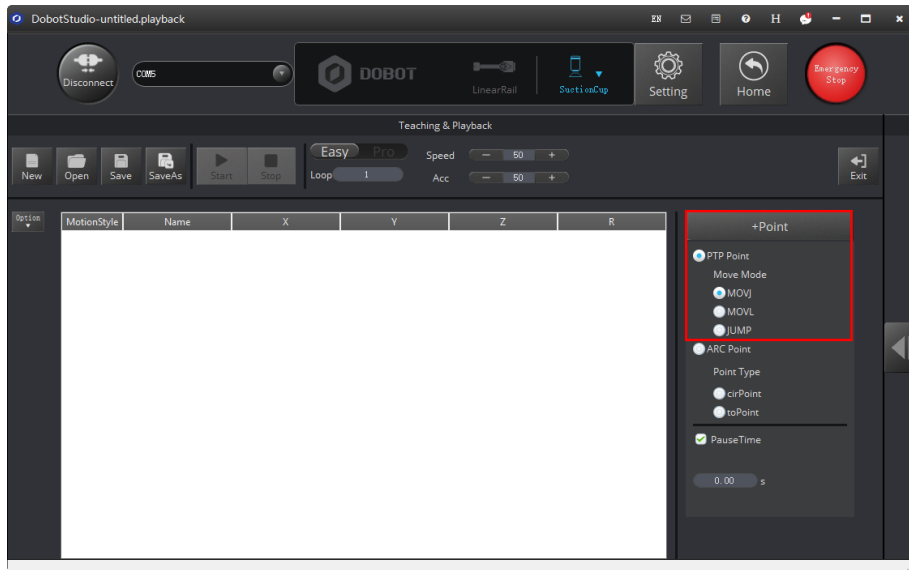

Figure 2.20 Select MOVJ motion mode
2. Select **PTP Point** > **MOVJ** mode in the Save Point area, as shown in Figure 2.20.